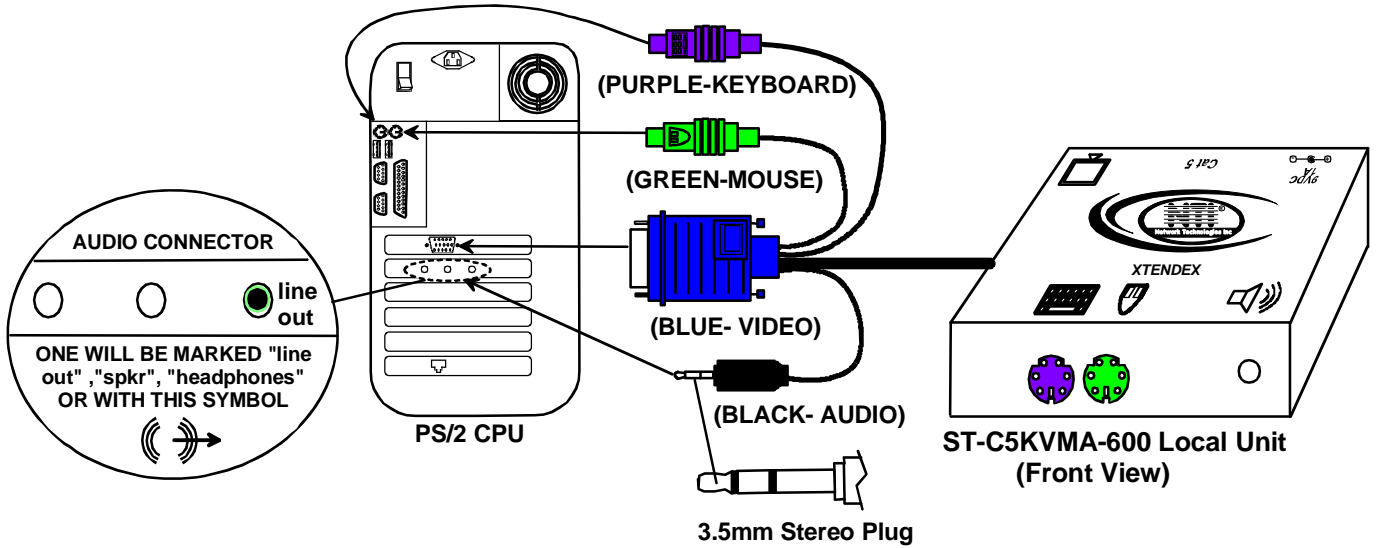

Figure 2- Connect the Local Unit with Audio support to the CPU
- e) If the Local Unit has Audio support, connect the black 3.5mm stereo plug into the "line out", "spkr", or "headphones" jack on the back of the CPU. (See Figure 2)